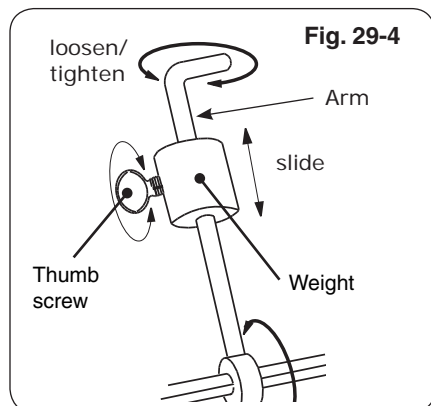
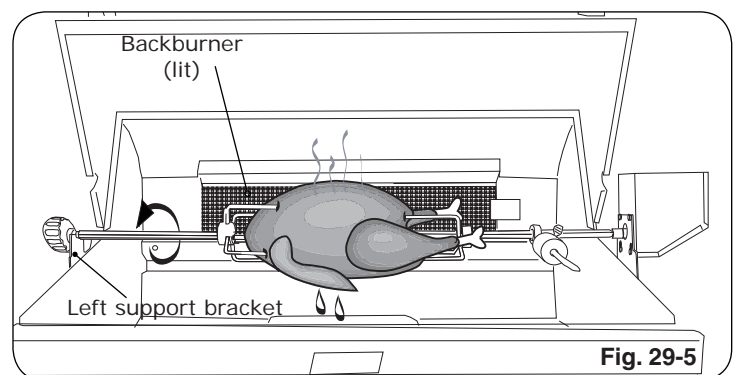

Fig. 29-4
Fig. 29-5
7. Slide the counterbalance weight up or down the arm until the rod rotates most evenly then tighten thumb screw (Fig. 29-4 and Fig. 29-5).